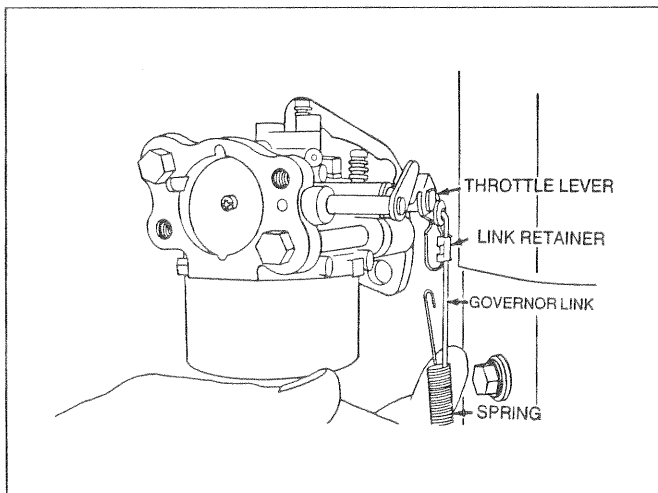

Figure 142. Connection of Governor Link
- Connect governor link to throttle lever. Connect spring on governor lever and throttle lever link retainer (Figure 142).